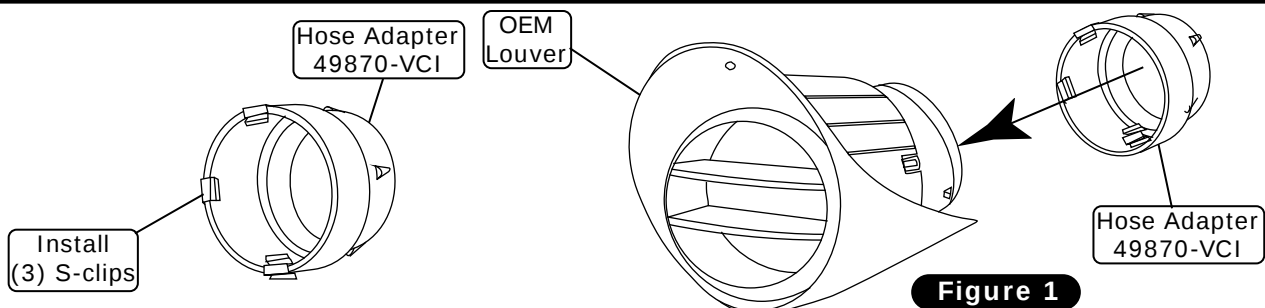

Figure 1
1. Install (3) S-clips onto the hose adapters as shown in Figure 1, below.
2. Install the driver- and passenger-side hose adapters outside the OEM louvers (See Figure 1, below).